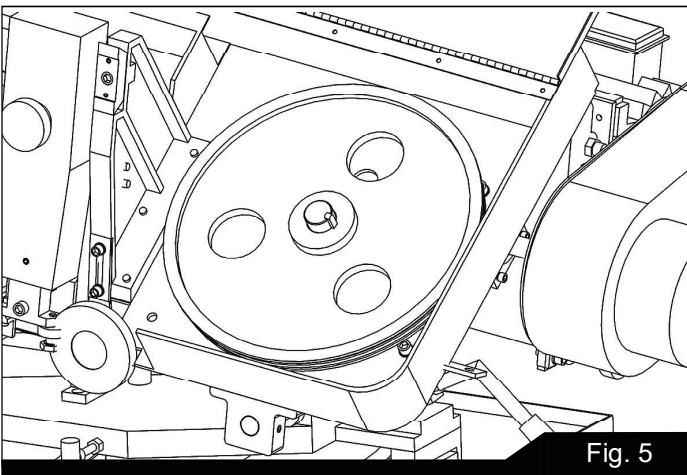

Fig. 5
9. Put light tension on the blade and work it on both wheels, as shown in Fig. 5.